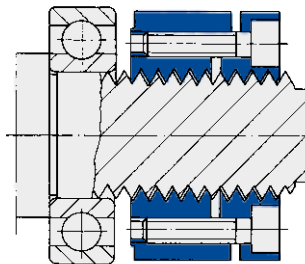

Fig. 2
3. Tighten the clamping screws evenly in diagonal sequence while turning the locknut forwards and backwards. Stop tightening when flank play is almost eliminated (Fig. 2).